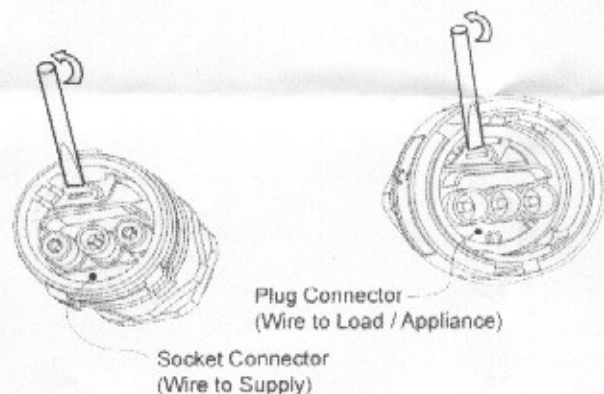

Fig.2 Inner Connectors
- 1 It is recommended that the Power Supply cable should be wired into the Inner White Socket Connector (see Fig. 2 below), and the cable that goes on to the Load/Appliance should be wired into the Inner White Plug Connector (see Fig. 2 below).
- 2 Remove the Inner White Socket Connector by inserting an electrician's (or small flat bladed) screwdriver into the slot and turning anti-clockwise. This will unlock the connector from the outer housing, and will allow the inner connector to be rotated through 45 degrees, leaving it free to be pulled straight out of the body (see Fig. 2 below).